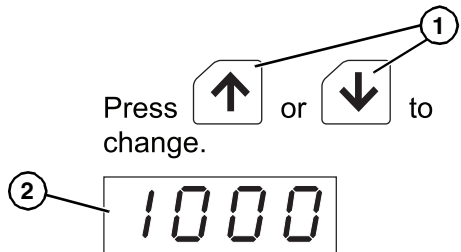

Figure 27
4. Press up or down (**Figure 27, item 1**) to change the speed (e.g., 1000 r/min) (**Figure 27, item 2**). Pressing and holding the key for 3 seconds or more will increase or decrease the value successively.